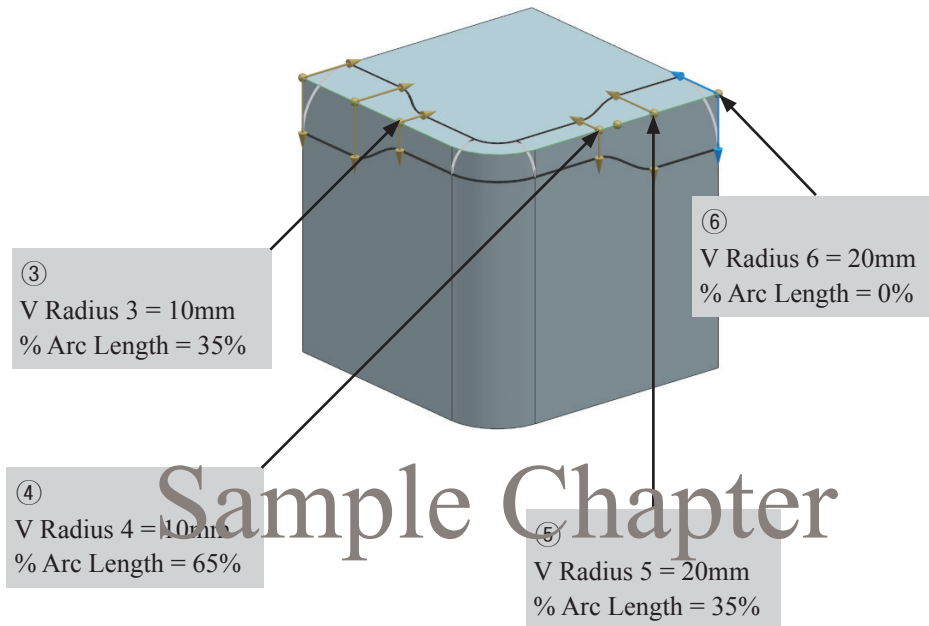

Fig 6-38 Values for Four Points
12. In the same manner as steps 9 to 11, define each radius for the four points specified in Fig 6-38. Note that you may have to enter different **% Arc Length** values for points 4 and 5 depending on the start point of the edge.